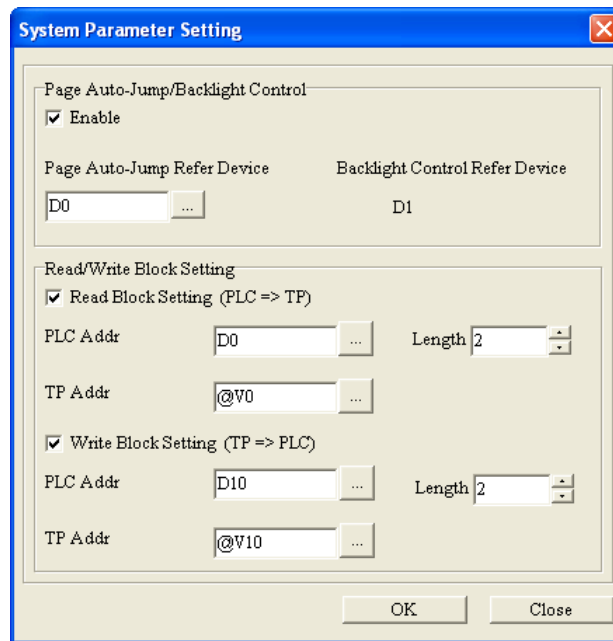

Figure 5-18 System Parameter Setting window
**System Parameter Setting** is used to set a TP series text panel. After users click **System Parameter Setting** on the **Global Setting** menu, the **System Parameter Setting** window will be opened. The **System Parameter Setting** window for TP04G series text panels, TP04G-AL-C series text panels, TP04G-AL2 series text panels, TP04G-BL-C series text panels, TP04G-BL-CU series text panels, TP05G series text panels, and TP08G series text panels is as shown in Figure 5-18.